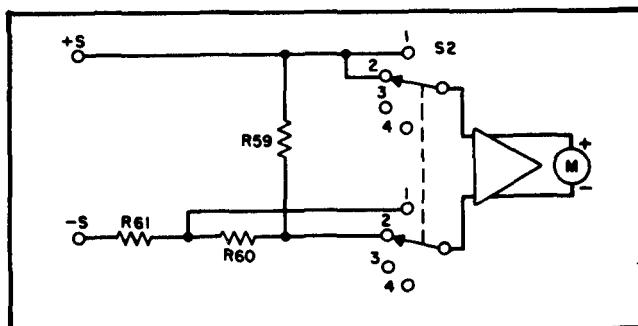

Figure 4-3. Voltmeter Connections,
4-40 Figures 4-3 and 4-4 show the meter connections when the METER section of S2 is in the higher voltage and current range positions, respectively. For the sake of simplicity, some of the actual circuit components are not shown on these drawings. With the METER switch in the higher voltage range, position 2, the voltage drop across R59 is the input to the meter amplifier and the meter indicates the output voltage across the +S and -S terminals. For low output voltages, S2 can be switched to the low voltage position (1) resulting in the application of a larger percentage of the